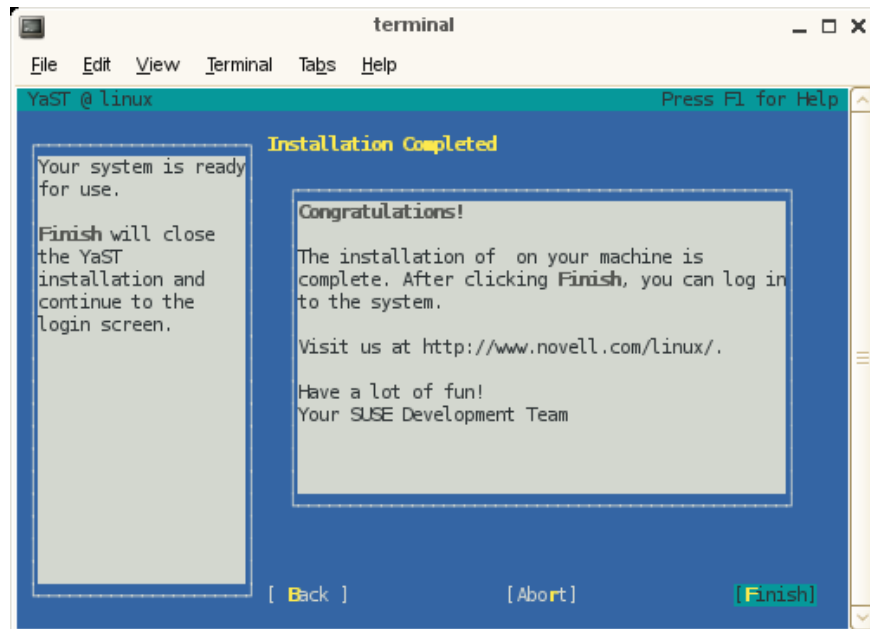

Figure 2-8 Installation Completed Screen
18. An **Installation Completed** screen appears, as show in Figure 2-8 on page 43. Click on the **Finish** button.